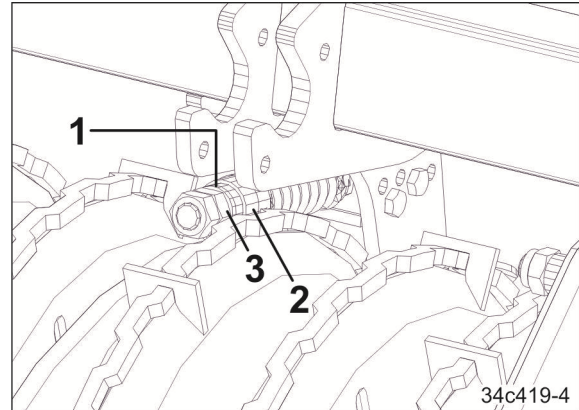

Fig. 130
2. Insert 1 to 2 spacer discs (Fig. 130/1) between the socket (Fig. 130/2) and hexagon nut (Fig. 130/3).